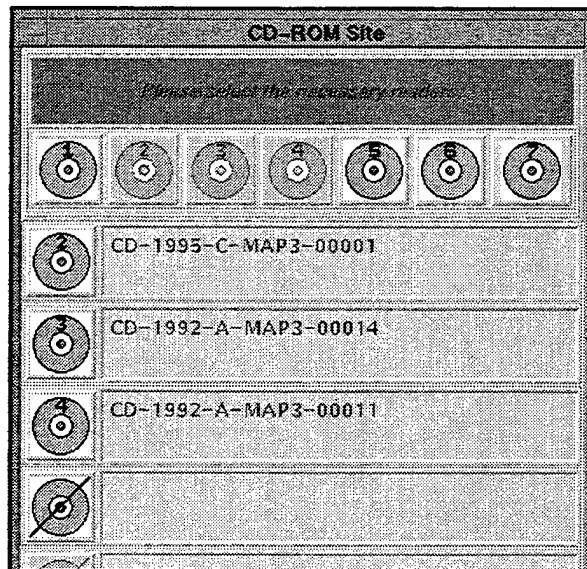

Fig. 76 — CDROM site window: titles listed for selected CD readers
- (4) Select *Scan Readers* (in the lower-left corner of the window); MMC will list the titles of the CDs on the selected readers (Fig. 76).